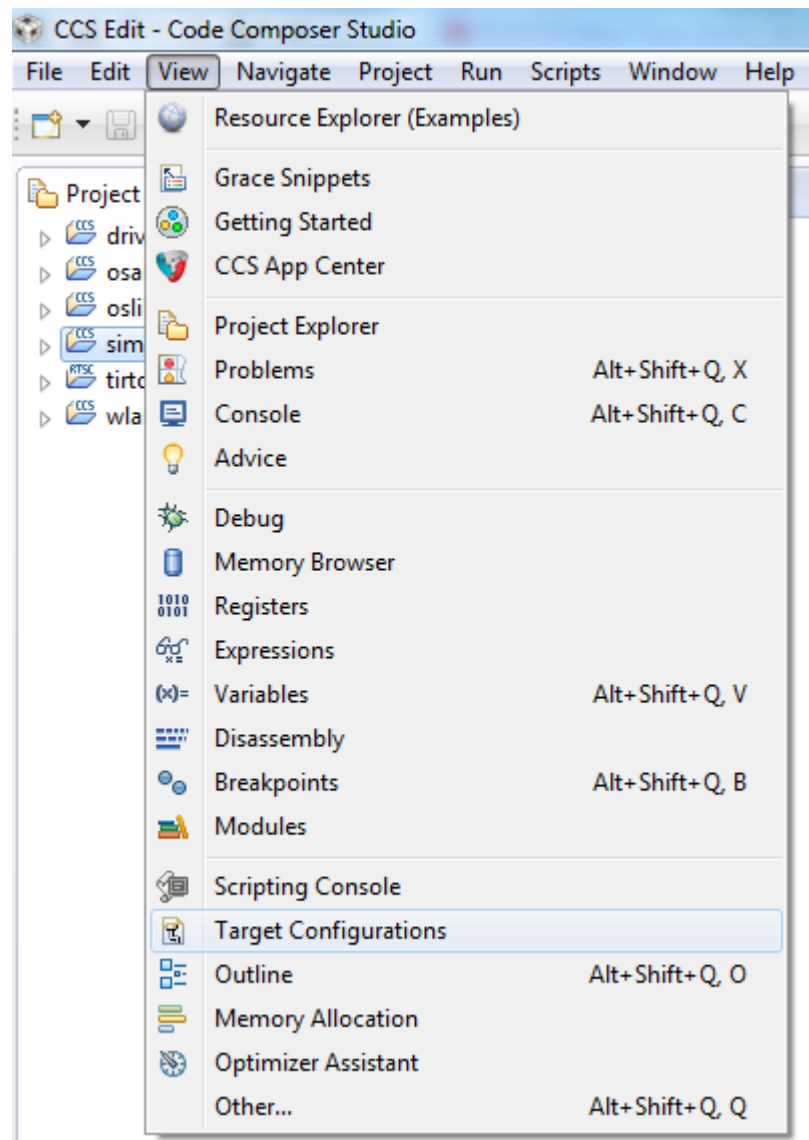

Figure 5-20. Set Target Configuration
1. The target configuration must be set before debugging from CCS. Navigate to *View→Target Configurations*, as shown in Figure 5-20.